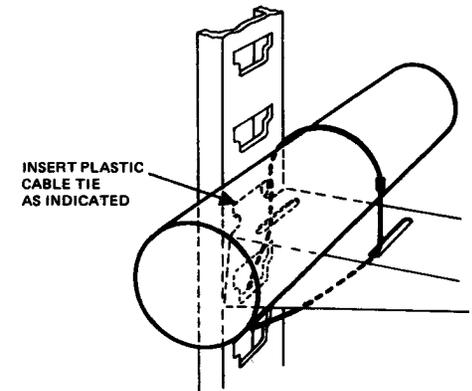

Fig. 8
(b) Fig. 8 - revised
6.02 All sizes of new cable hooks (Section 622-520-100) are provided with slots for securing polyethylene-sheathed cables to the hooks with plastic cable ties. Revised Fig. 8 illustrates the clamping of a cable to the slotted cable hook. Generally, lead-sheathed cables need not be lashed to the cable hooks.